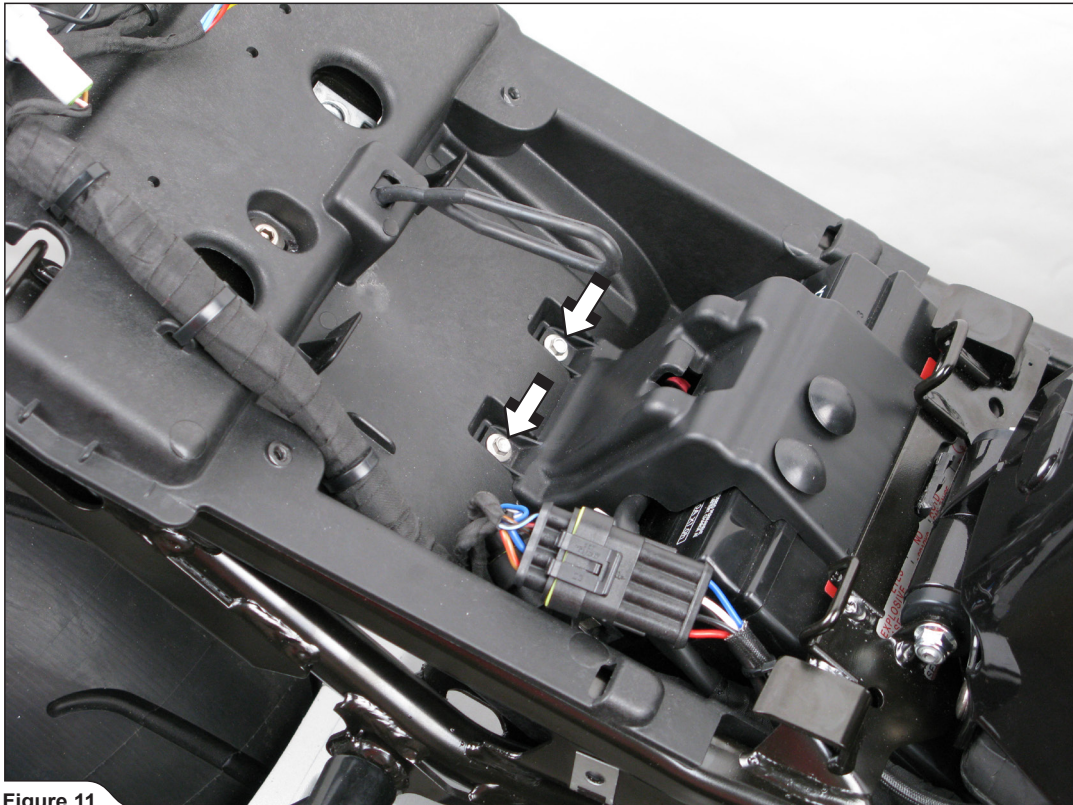

Figure 11
9. For optional mudguard only: unscrew and remove the battery cover (Figure 11).